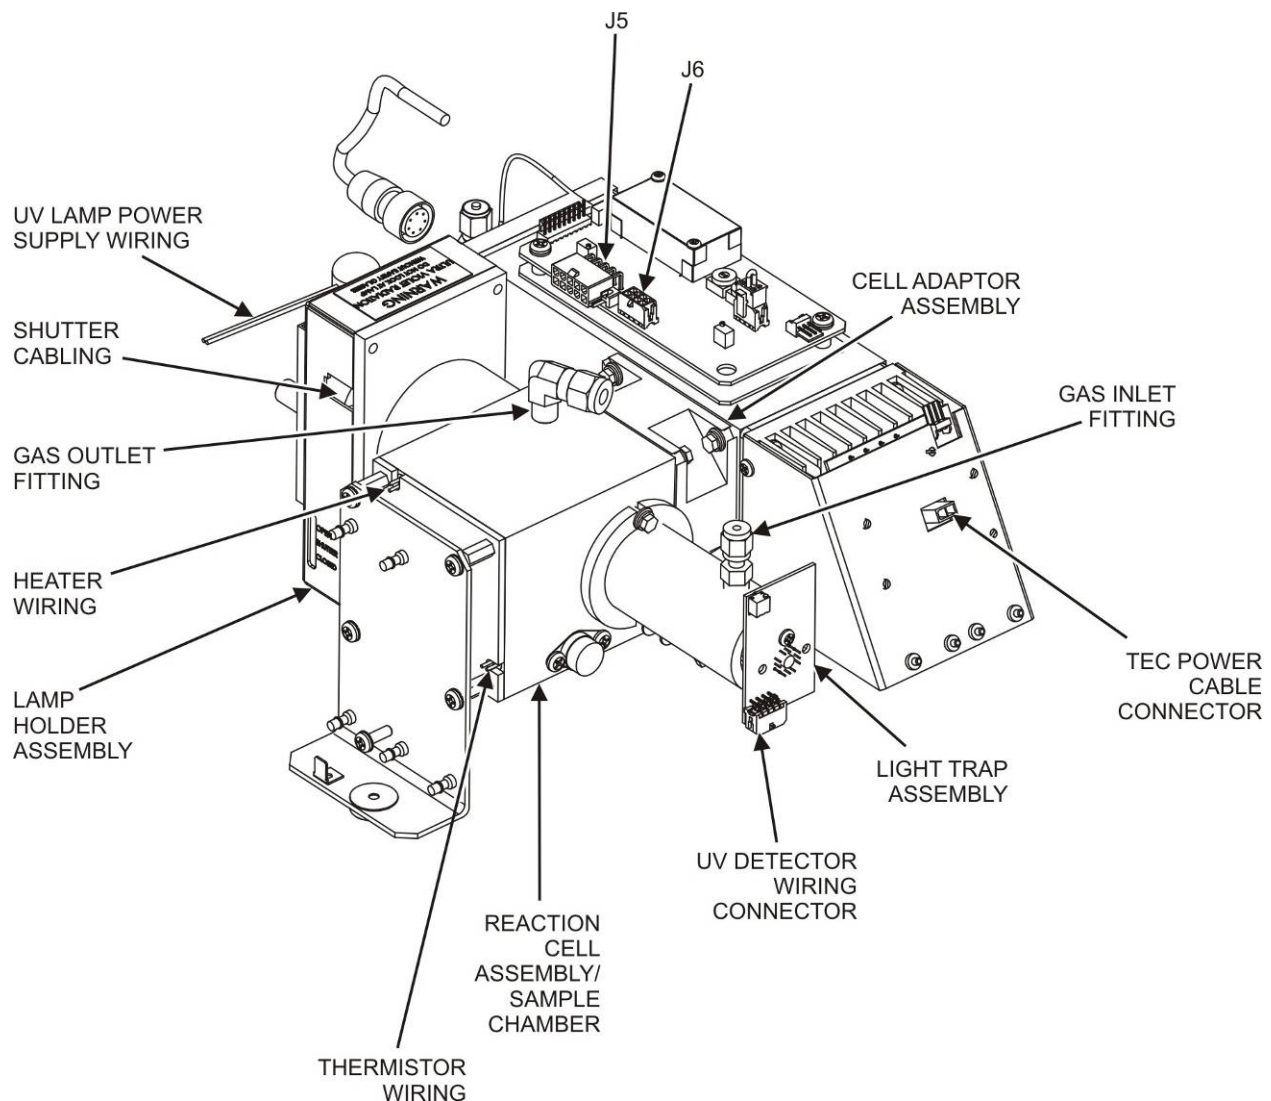

Figure 12-6: Sensor Module Wiring and Pneumatic Fittings
3. Disconnect the sensor module pneumatic lines (refer to Figure 12-6)